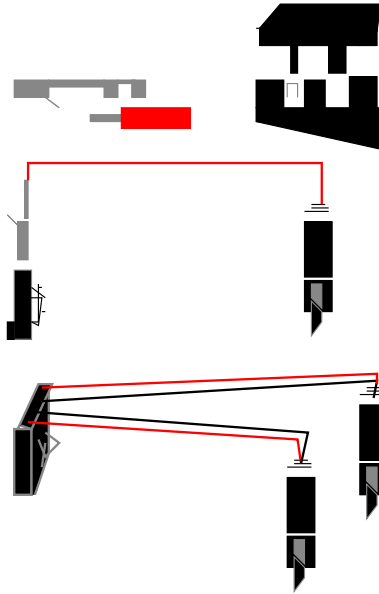

Figure 6: Not very helpful crimping example.
- (d) Create the proper connector for the speaker, which is the 4-pin CDROM connector. Trim the wires to about 6" Crimp the connectors to the four wires (this is tricky, see Figure 6 with a crimping tool. Insert the wires into the connector. L-,L+,R-,R+